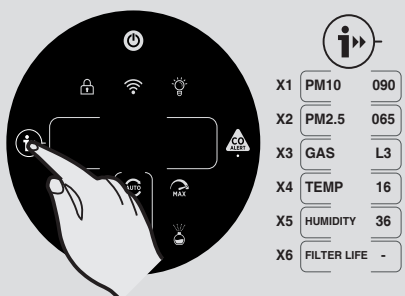

Fig. 7
### INFORMATION Function [Fig. 7]:
- Press the INFORMATION button and follow the instructions to reset the Filter Clean function by holding the button for 3 secs, an audible alert will be heard to indicate a successful reset. [Fig. 7]